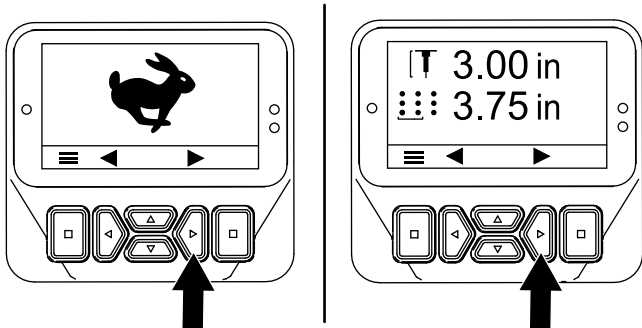

Figure 61
**Note:** The TRANSPORT mode screen or the AERATE mode screen displays (Figure 61).